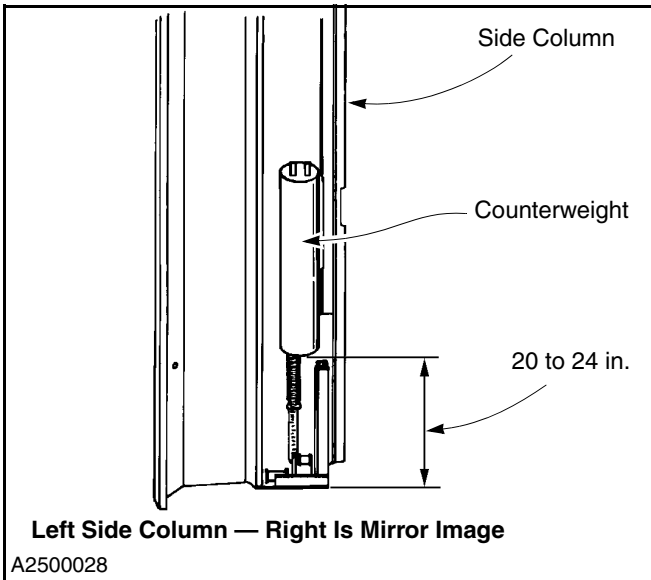

Figure 31
3. Inspect the counterweight straps for stretch. With the door in the full-open position, the counterweights will hang at their lowest point in the side column. The distance from the bottom of the counterweight to the base of the side column should measure 20 to 24 in. (See Figure 31.)
4. If a strap has stretched to the point where the counterweight is not in the position as shown in Figure 31, reposition the counterweight by adjusting the strap. (See “COUNTERWEIGHT STRAP ADJUSTMENT” on page 23.)